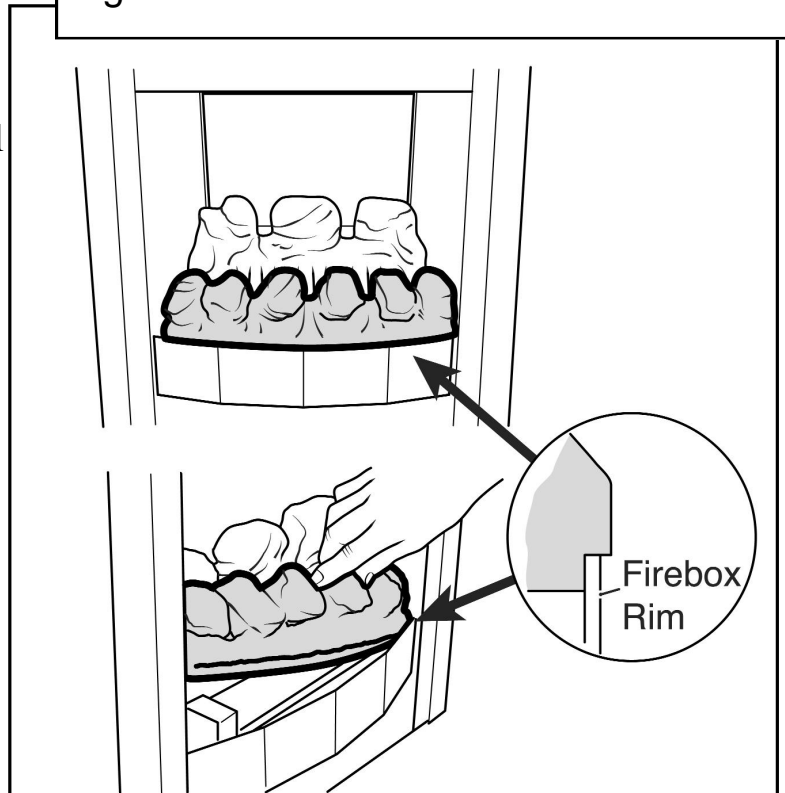

Figure 25. Front base coal position
2. Place the front base coal in the firebox with its bottom front locating over the front rim of the firebox. Pull the coal forward so that it locates immediately behind the front rim of the firebox. (See figure 25). The front base coal will touch the rear base coal as it is located.